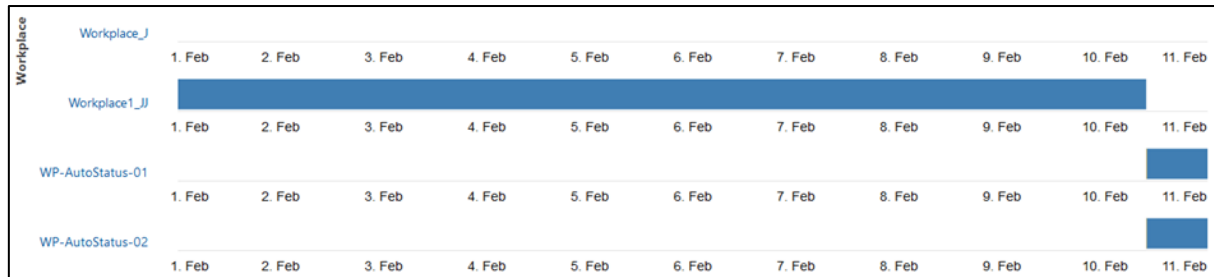

Fig. 150: Workplace allocation as timeline
- Workplace allocation as timeline (fig. 150):